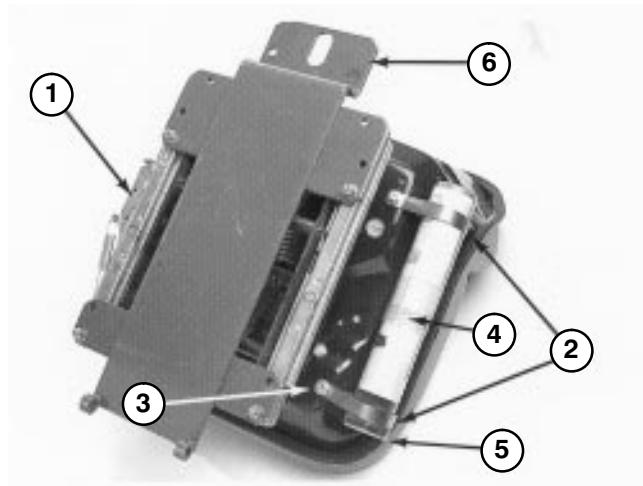

Figure 8
10. Mount seat suspension assembly to (4) capscrews on seat bottom and secure with (4) lockwashers, flatwashers and nuts (Fig. 8).
12. Loosely secure (2) R-clamps to right side of seat bottom with (2) capscrews and flatwashers supplied in kit (Fig. 8). Install manual tube into R-clamps and tighten capscrews (Fig. 8).
13. Mount seat support over four threaded studs at the bottom of seat suspension assembly and secure in place with flangeneuts (Fig. 8).